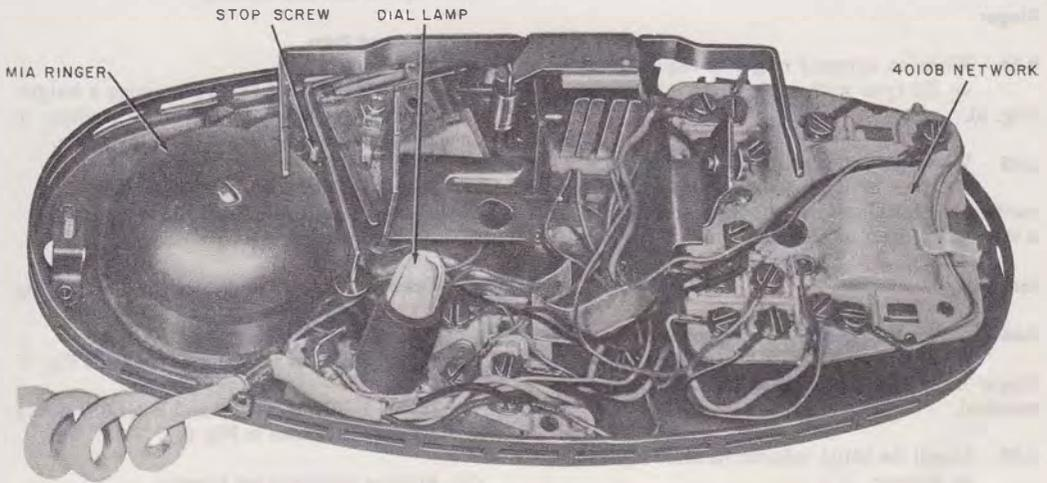

Fig. 3—702-Type Telephone Set, Dial and Housing Removed
2.06 The 702B telephone sets (Fig. 3) are similar to the 701B which it replaces, except that an internal ringer (M1A) is provided.